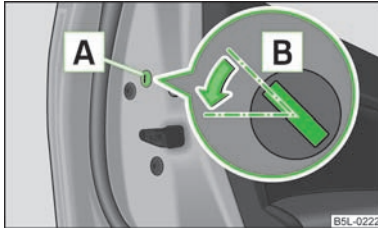

Fig. 13
- Remove the panel **A** » Fig. 13.